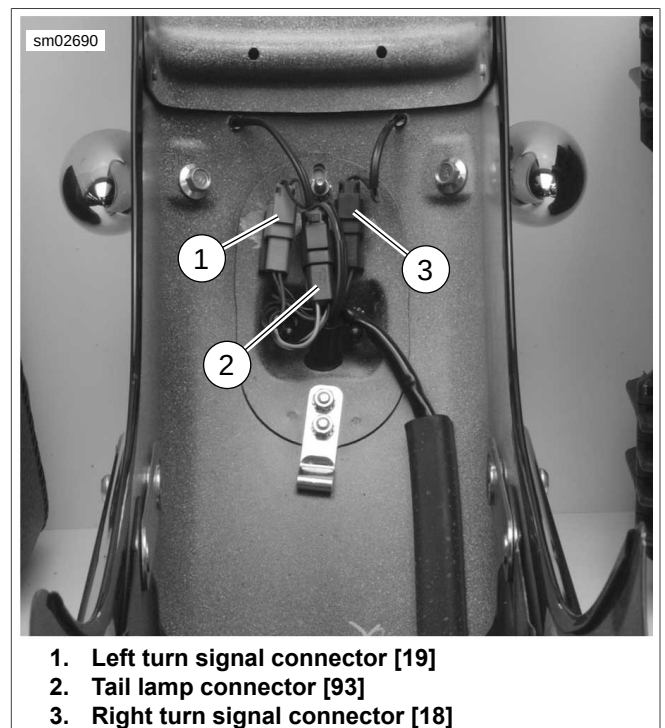
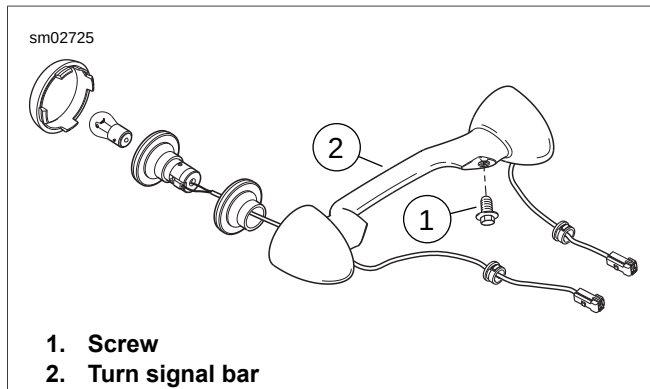

Figure 7-64. Turn Signal Connectors
Figure 7-65. Rear Turn Signals: FLSTN
3. See Figure 7-64. Disconnect left [19] (1) and right [18] (3) turn signal connectors.
5. See Figure 7-65. Remove screws (1) to release turn signal bar (2) from fender.
6. Install **new** turn signal bar. Tighten screws (1) to 15-19 ft-lbs (20.4-25.8 Nm).
8. See Figure 7-64. Connect left [19] (1) and right [18] (3) turn signal connectors.